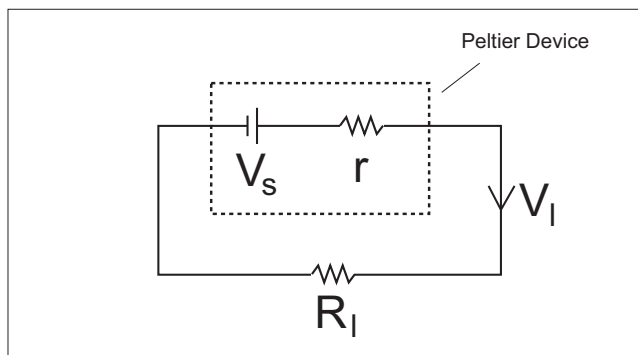
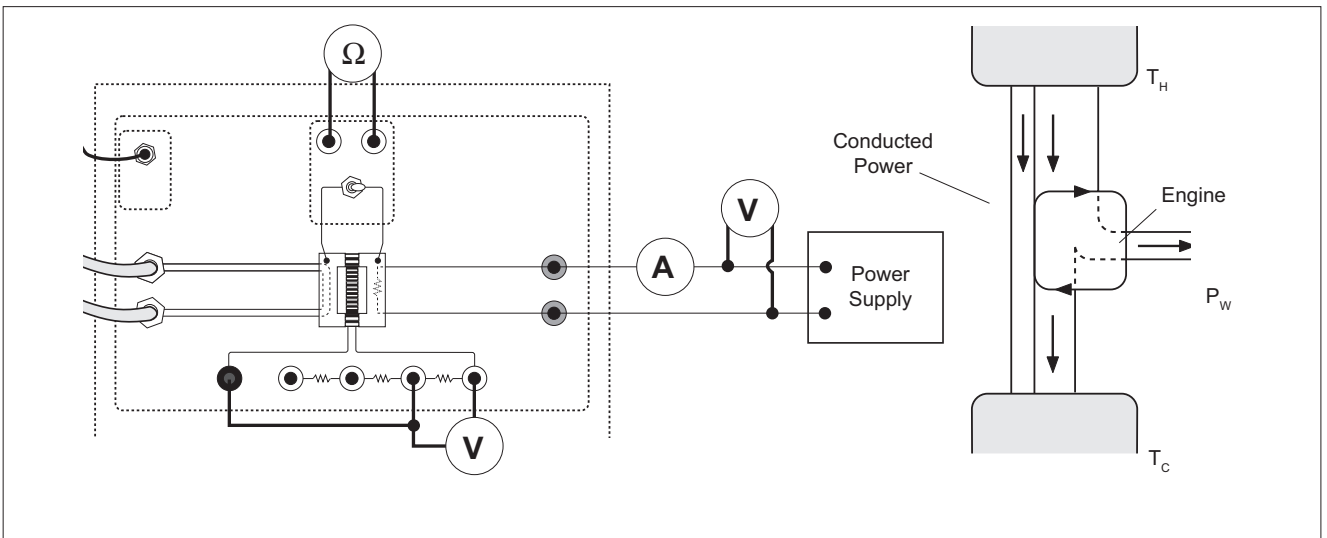
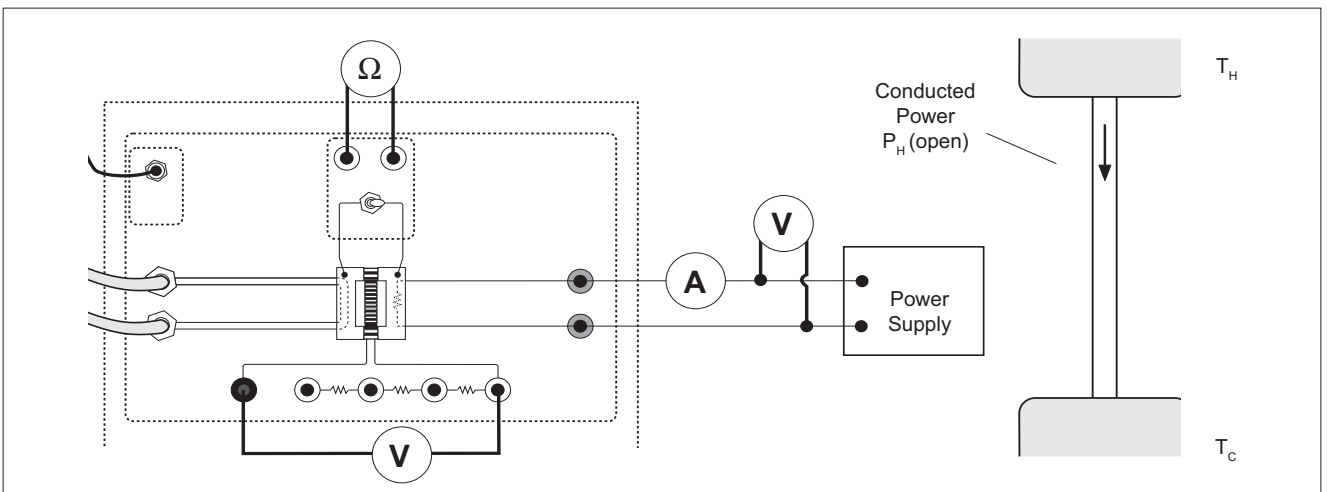
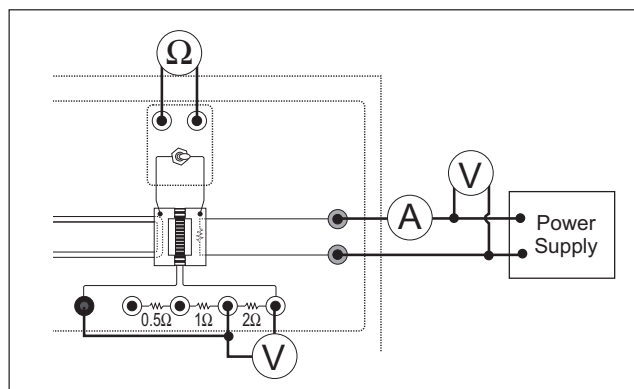

Figure 5: Procedure for Finding Internal Resistance
Figure 6: Heat Engine With A Load
Figure 7: No Load
Figure 2.1
First run the Thermal Efficiency Apparatus with a load resistor (R) as in figure 6. The electrical equivalent of this setup is shown in figure 5. Kirchoff's Loop Rule gives
Next, run the Thermal Efficiency Apparatus with no load, as in Figure 7. Since there is no current flowing through the internal resistance of the Peltier Device, the voltage drop across the internal resistance is zero and the voltage measured will just be V_S
The Thermal Efficiency Apparatus is run with a load connected to measure P_H (Figure 6) and then the load is disconnected and the power input into the hot reservoir is adjusted to maintain the temperatures (less power is needed when there is no load since less heat is being drawn from the hot reservoir). See Figure 7. $P_{H(\text{open})}$ is the power input
The work can be measured directly but the heat delivered to the hot reservoir has to be measured indirectly. Notice that when the heat pump is operating, the temperature of the hot reservoir remains constant. Therefore, the hot reservoir must be in equilibrium and the heat delivered to it must equal the heat being conducted and radiated away. So a measurement of the heat conducted and radiated away at a given temperature difference will also be a measurement of the heat delivered to the hot reservoir. The heat conducted and radiated is measured by running the device with no load and measuring the heat input needed to maintain the temperature of the hot side (Figure 7).
- B. Connect the 2Ω load resistor with a short patch cord as shown in Figure 2.1. Connect a voltmeter across the load resistor.
② Open
- A. Disconnect the patch cord from the load resistor so no current is flowing through the load and thus no work is being done. Now all the power delivered to the heating resistor is either conducted to the cold side or radiated away. Leave the voltmeter attached so that the Seebeck voltage (V_S) can be measured. (see figure 7)